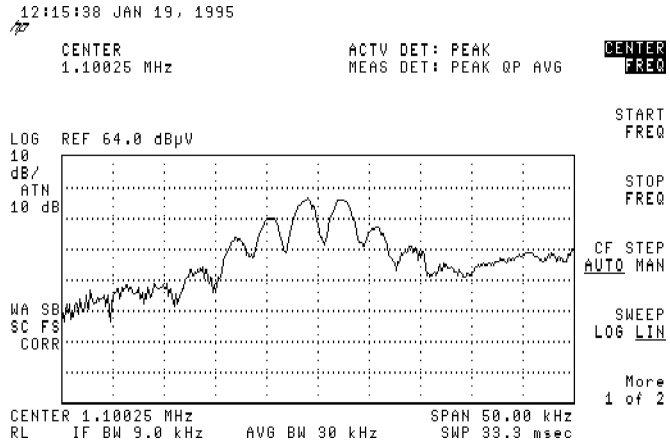

Figure 7-35. Viewing an AM signal.
2. First, center and zoom in on the signal in the frequency domain. Refer to “Decreasing the Frequency Span Using the Marker Track Function.” Be sure to turn off the marker track function, since the marker track function must be off for zero span. Refer to Figure 7-35.